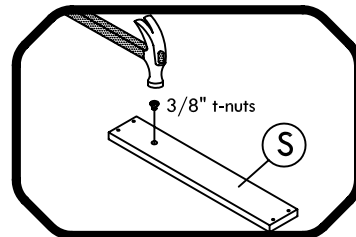
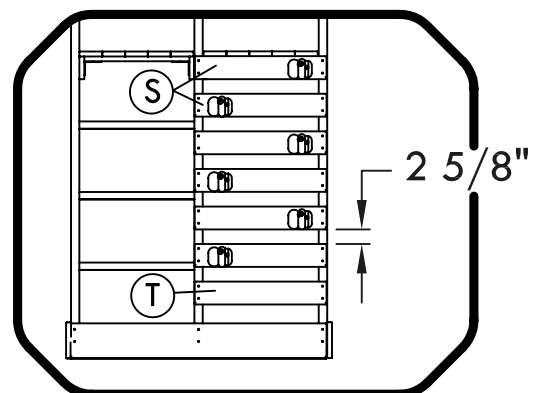

Fig. 6
Fig. 8
Step 2: Gather the (6) Rockwall boards 'S' and hammer 3/8" t-nuts into the large hole on each board. (see Fig. 6)
Step 3: Install the first Rockwall Board 'S' by placing the board flush with the bottom of the floor where shown and attaching to uprights with (4) 2 1/4" deck screws. (the t-nut must go to the inside of the fort.)
Step 4: Place remaining (5) Rockwall boards 'S' below the previously attached board, spaced 2 5/8" apart. Boards must be placed so the rock holes alternate sides and NOT placed in a straight line. (Note: Place boards from top to bottom.) (See Fig. 8)